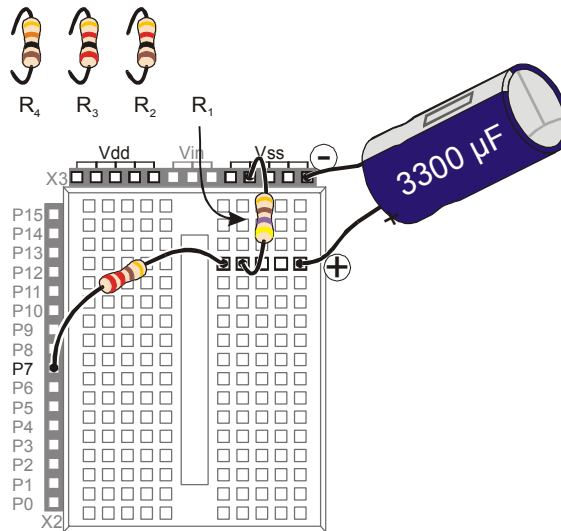

Figure 5-9
Figure 5-8 shows the circuit schematic and Figure 5-9 shows the wiring diagram for this activity. You will be taking time measurements using different resistor values in place of the resistor labeled R_i .
Your 3300 μF capacitor will work fine in this experiment so long as you make sure that the positive (+) and negative (-) terminals are connected EXACTLY as shown in Figure 5-8 and Figure 5-9.
- ✓ Remove the 470 Ω resistor labeled R_i in Figure 5-8 and Figure 5-9 on page 145, and replace it with the 1 k Ω resistor.